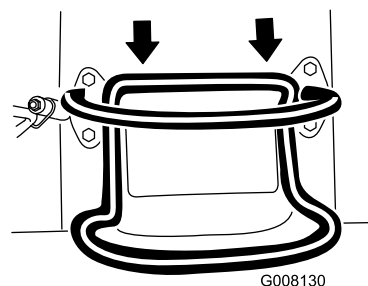

Figure 7
- To move rearward, move the traction control rearward (Figure 7).